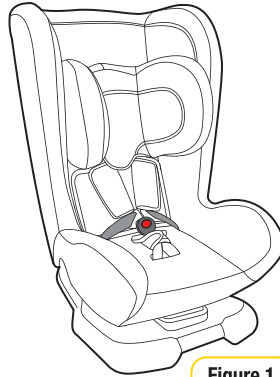

Figure 1
Step 1: Remove the insert/s to access the seat cover (refer Figure 1).